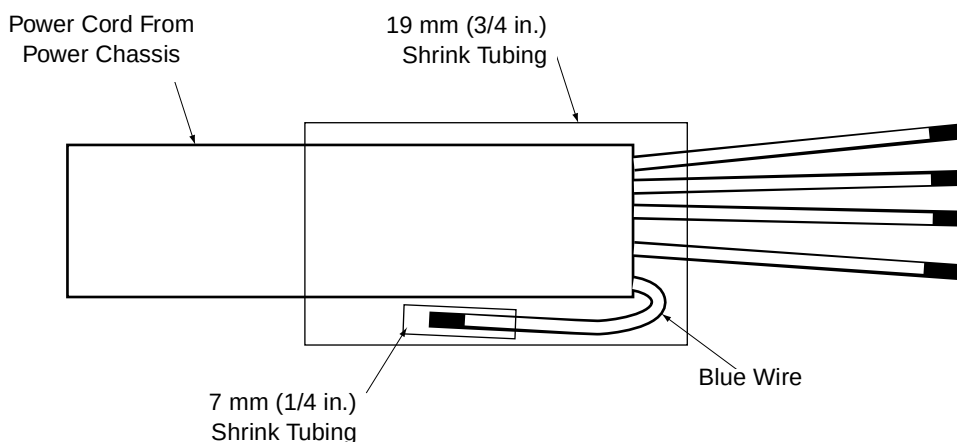

**Figure 4-17. Insulating Blue Wire in Power Cord (200-240VAC)**
4. Place the 7 mm (1/4-inch) shrink tubing over the end of the blue wire in the power cord and use a heat gun to apply it (see Figure 4-17).
5. Fold the blue wire back (see Figure 4-17).
6. Place the 19 mm (3/4-inch) shrink tubing over the blue wire and the power cord insulation and use a heat gun to apply it (see Figure 4-17).